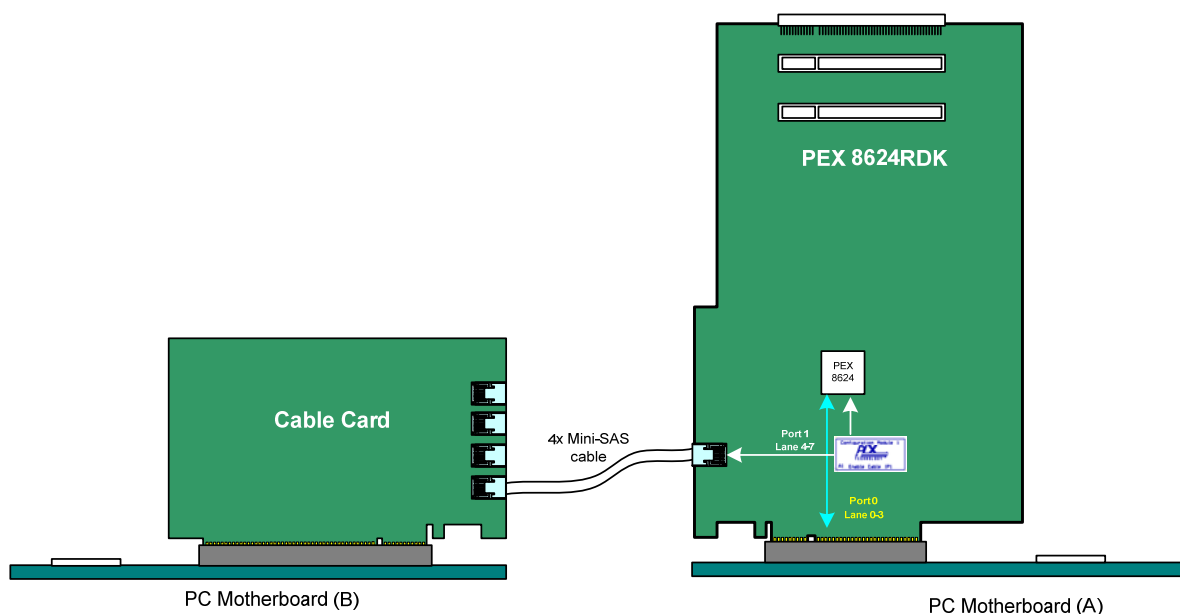

Figure 2-3. Use mini-SAS Connector for NT Function Setup
PEX 8624 only supports Non-Transparent (NT) mode on Port 0 or Port 1 of Station 0. The 4X mini-SAS connector IP1 provides the simplified connections for the customers to connect the PEX 8624-AA RDK to two PC motherboards. When the Configuration Module 1 is plugged into the CM1 receptacle, lanes 4-7 from the PEX 8624 pass the midbus probe footprint JP1 and CM1 and connects to the 4X mini-SAS connector IP1. Depending on the port configuration, Port 1 at connector IP1 can be set as a downstream port, upstream port or an NT port. Figure 2-3 shows a set up using PEX 8624-AA RDK's NT function. Either Motherboard A or B can be connected to an upstream port or NT port of the PEX 8624.